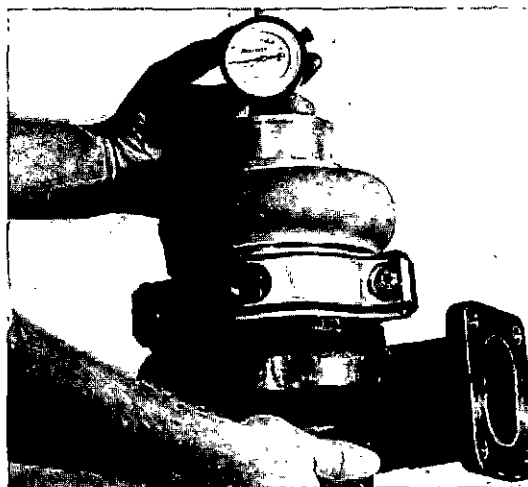

Fig. 2-16, (T3524). Checking the total shaft end clearance
17. Use a dial indicator to check the total end clearance, Fig. 2-16. The end clearance must be within 0.004 to 0.015 inch [0.10 to 0.38 mm].